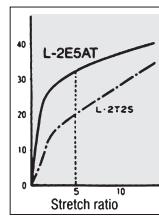

Fig. 1 Pull Load and Stretch Ratio for Cable
- The L-2E5AT contains the Teflon cable filler reinforcement material. <Fig. 1>